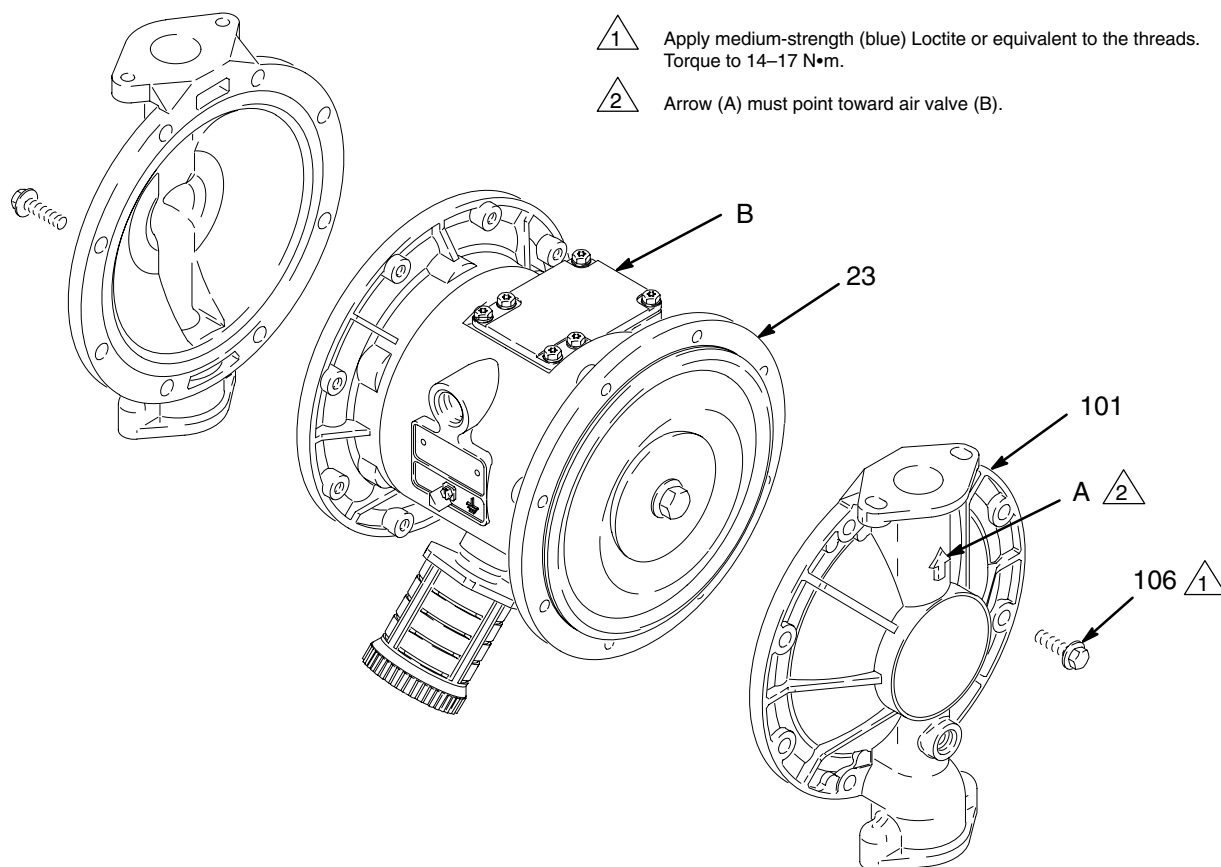

Fig. 13
3. Using a 10 mm socket wrench, remove the screws (106) holding the fluid covers (101) to the air covers (23). Pull the fluid covers (101) off the pump. See Fig. 13.
- c. *On PTFE models only*, install the PTFE diaphragm (403*). Make certain the side marked AIR SIDE faces the center housing (1).
- d. Install the diaphragm (401*) on the bolt. Make certain the side marked AIR SIDE faces the center housing (1).
- e. Install the air side diaphragm plate (104) so the rounded side faces the diaphragm (401). This plate is used on all models, and is stamped with its part number.
- f. Apply medium-strength (blue) Loctite® or equivalent to the bolt (107) threads. Screw the bolt into the shaft (24) handtight.
3. Grease the length and ends of the diaphragm shaft (24), and slide it through the housing (1).
5. Hold one shaft bolt (107) with a wrench and torque the other bolt to 27–34 N•m at 100 rpm maximum.
6. Align the fluid covers (101) and the center housing (1) so the arrows (A) on the covers face the same direction as the air valve (B). Secure the covers with the screws (106), handtight. See Fig. 13. Using a 10 mm socket wrench, torque the screws oppositely and evenly to 14–17 N•m.